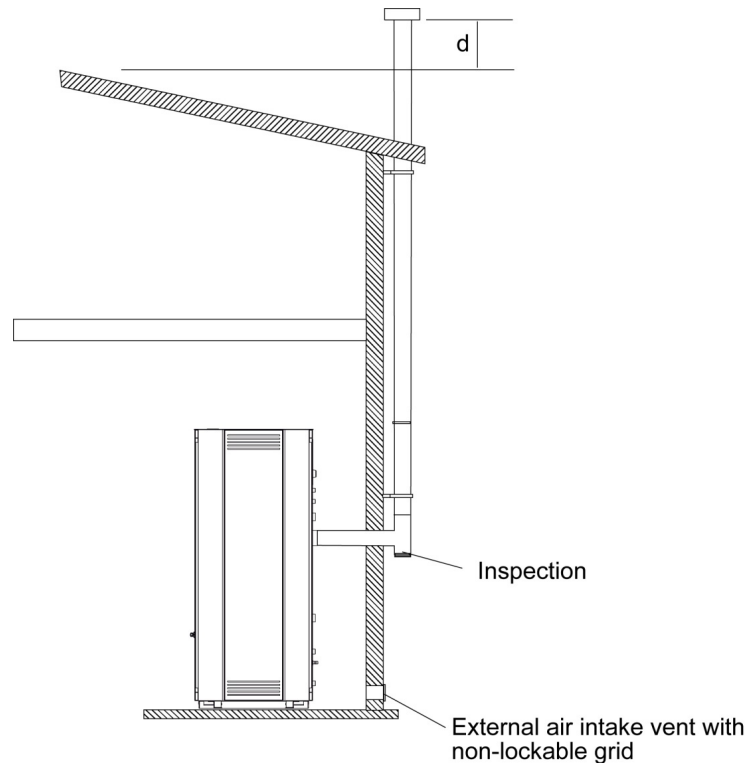

Fig. 5
- Only insulated tubes (**double wall**) in stainless steel, secured to the building (Fig.5) should be used.